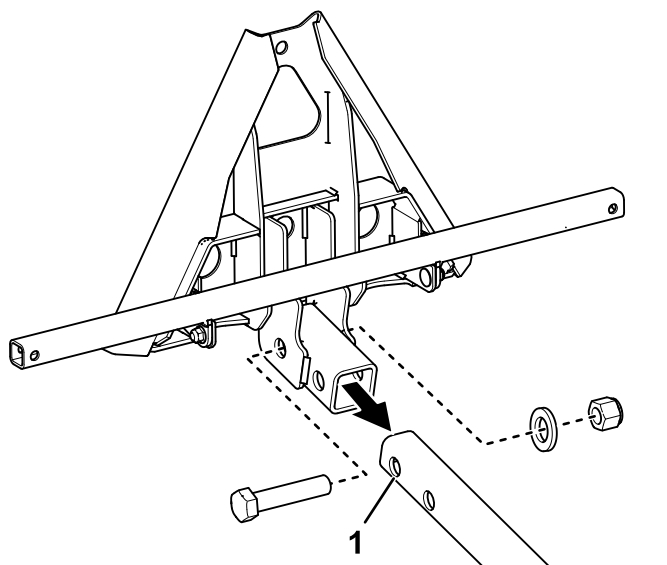

Figure 8
3. Connect the rear attachment adapter assembly to the drawbar with a hex-head bolt (3/4 x 3-1/2 inches), flat washer, and a locknut (3/4 inch) as shown in Figure 8.